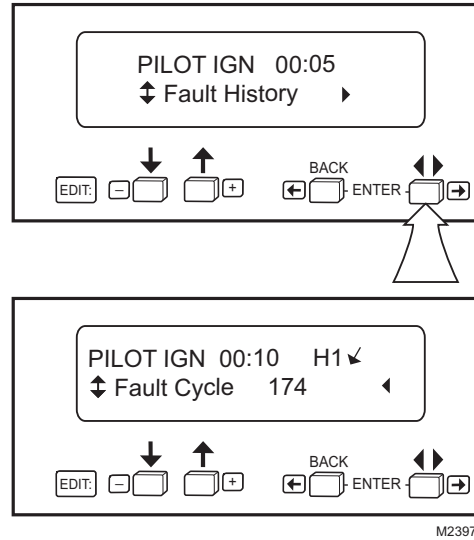

Fig. 42. The ◀▶ (change selectable level) push-button function.
2. The ◀▶ push-button. See Fig. 42. The ◀▶ push-button is used to change between the first hierarchy of selectable messages to a subset of selectable messages. The ◀▶ push-button can also be used to change from a subset message to a first level selectable message. The symbol located on the second in the lower right corner of the display represents a subset of selectable messages.